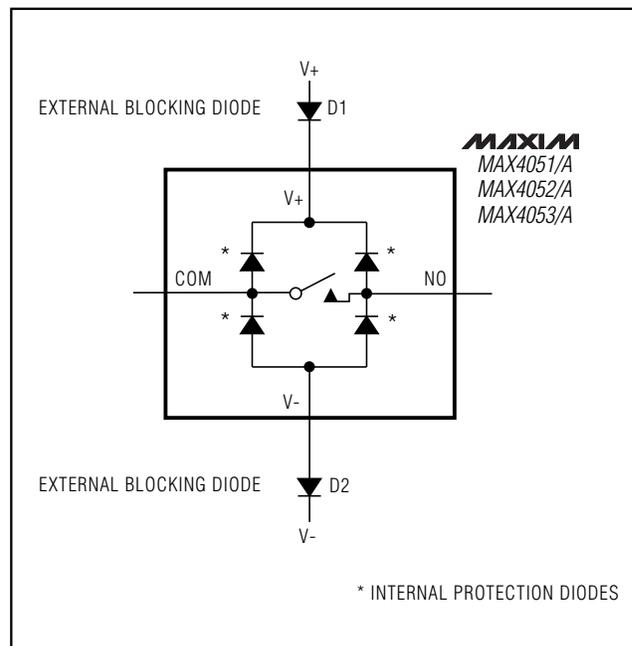

Figure 1. Overvoltage Protection Using External Blocking Diodes
Proper power-supply sequencing is recommended for all CMOS devices. Do not exceed the absolute maximum ratings, because stresses beyond the listed ratings can cause permanent damage to the devices. Always sequence V+ on first, then V-, followed by the logic inputs (NO) and by COM. If power-supply sequencing is not possible, add two small signal diodes (D1, D2) in series with the supply pins for overvoltage protection (Figure 1).